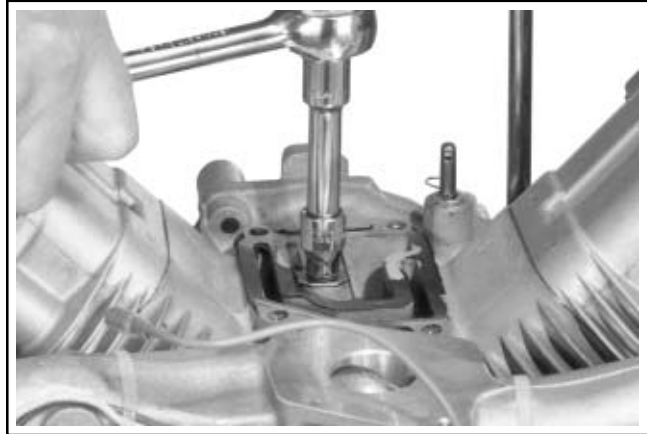

Figure 9-39. Removing Breather Reed.
7. Remove the hex. flange screw, breather reed retainer and breather reed. See Figure 9-39.